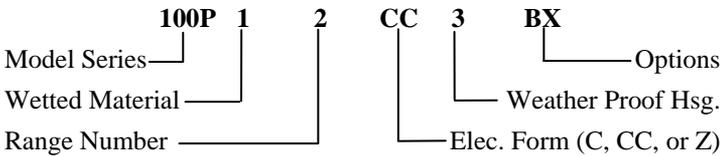

Figure 4. Part Number Breakdown
The part number contains information about which configurations and options are included in your Adjustable Pressure Switch. To determine the pressure range, electrical rating, and options, compare the part number of your unit with the information in Figure 4 below and the following tables.
* See Figure 4 on page 13 for the part number breakdown